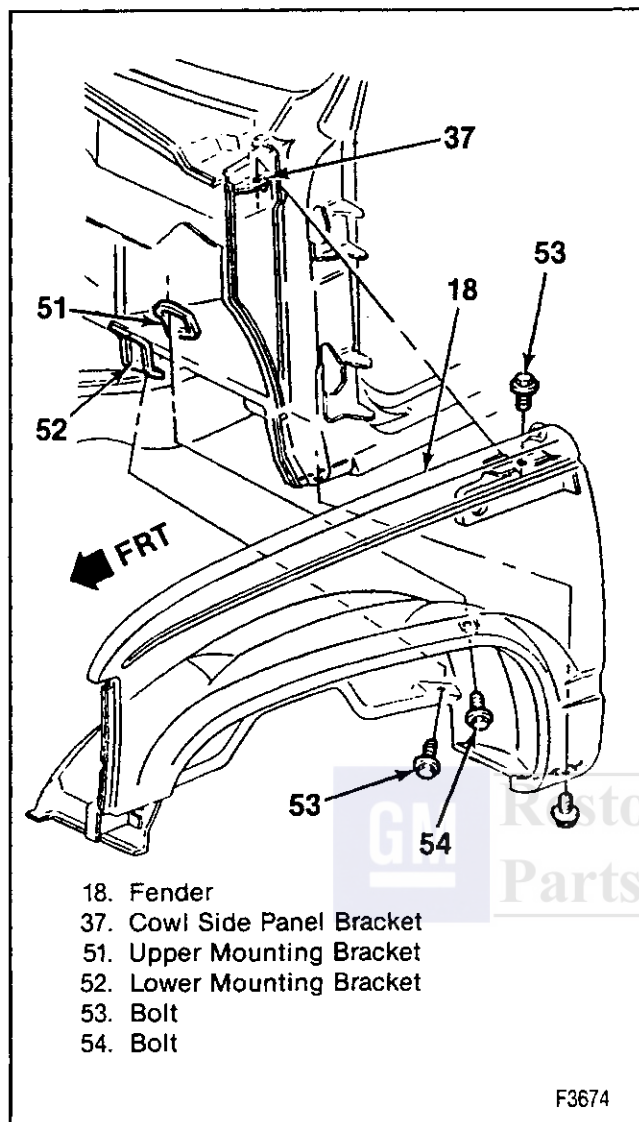

Figure 17—Wheelhouse Panel to Cowl Mounting
8. Two bolts holding the wheelhouse to the cowl mounting brackets (figure 17).